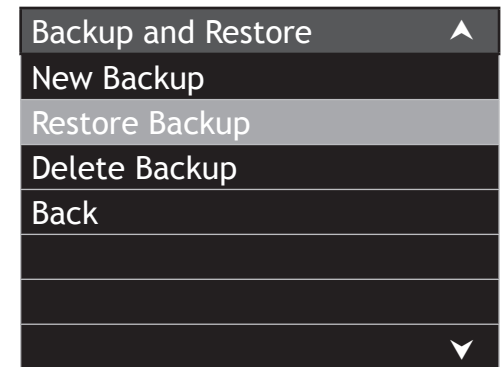

Figure 94
6. Using the Remote Control, enter the Setup Mode and proceed thru the “Installer Menu”, “Device Management” and the “Backup and Restore” Menus until “Restore Backup” menu option is highlighted. Press the SELECT Push-button. Refer to figure 94.